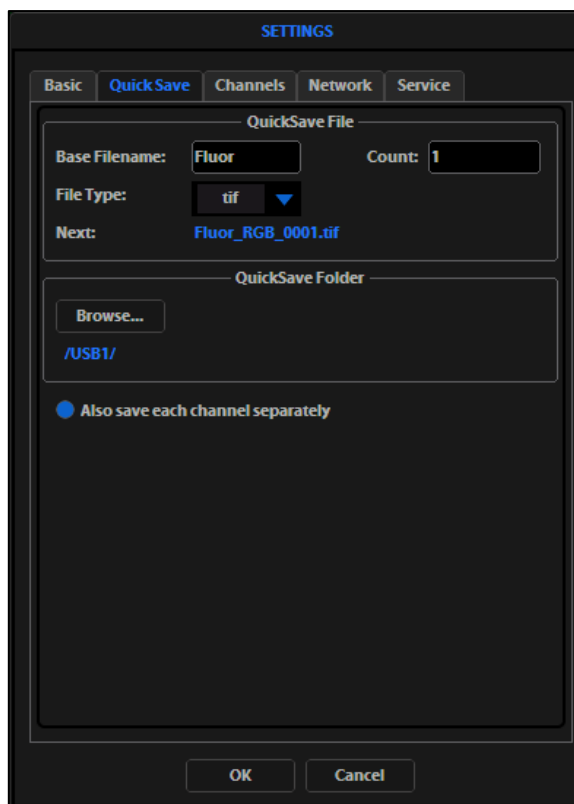

Figure 19 Settings: QuickSave Tab
10. After acquiring an image (see “Basic Operations” on page 17), click **Save**. The image will be saved as specified in the QuickSave settings (Figure 19).